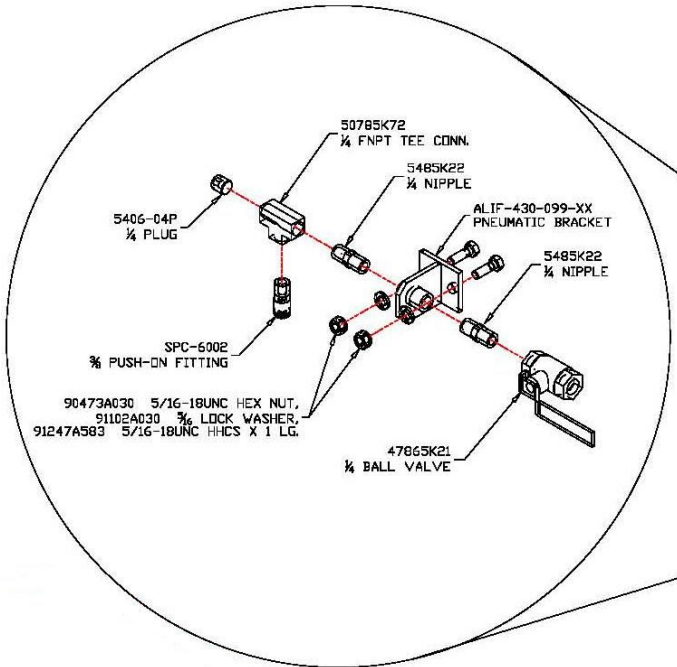

Figure 2
2. Attach the pneumatic bracket to the column using the provided 5/16-18 hardware. **NOTE:** The head of the bolt should be on the inside of the column, **Fig 2**.
3. Assemble the two 1/4 NPT nipples to the pneumatic bracket as shown in **Fig 2**.
5. Assemble the 1/4 NPT female tee, 3/8" tube, and 1/4 NPT plug on the left side, **Fig 2**.